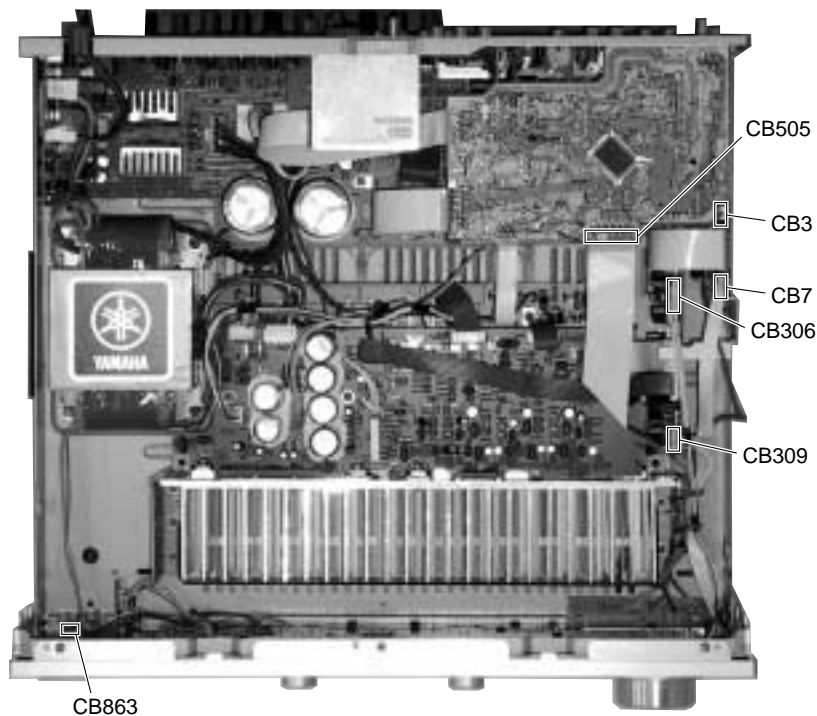

Fig. 7
- c. Remove connectors CB863 (3P), CB505 (21P), CB306 (8P), CB309 (5P), CB3(3P) and CB7 (6P). (Fig. 7)
- c. コネクタ-CB863 (2P)、CB505 (21P)、CB306 (8P)、CB309 (5P)、CB3 (3P)、CB7 (6P)を外します。(Fig. 7)